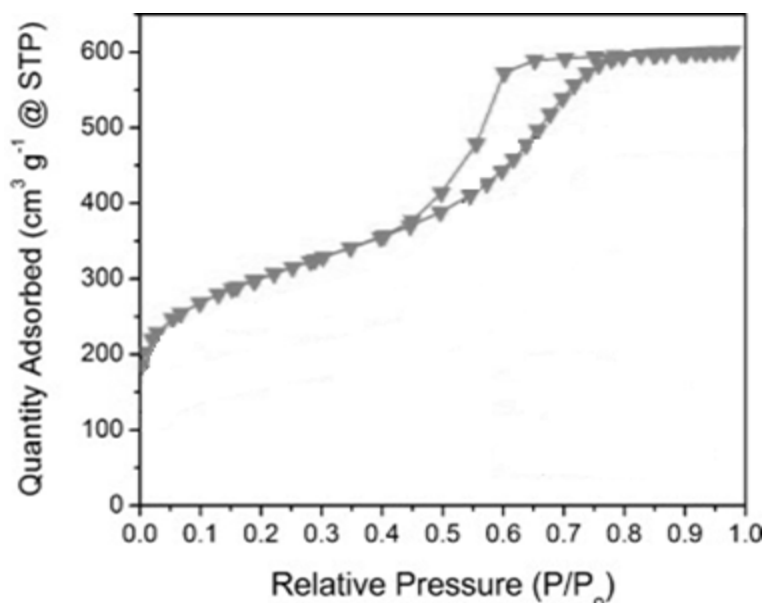
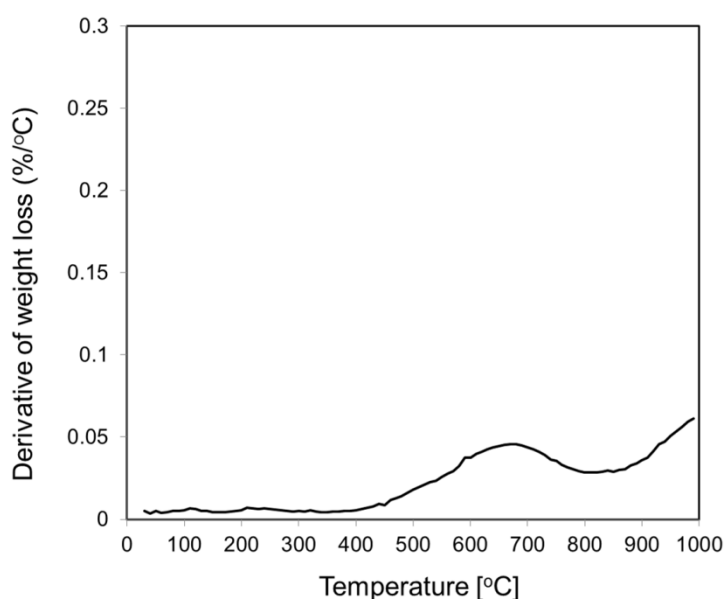

Fig. 1. N_2 isotherm of the carbon sieve at 77 K.
Fig. 2. Derivative of thermogravimetric curve of the carbon sieve under N_2 atmosphere.
Carbon sieves are porous materials containing mainly carbon atoms. They can be used as a catalyst support. At a production site, a carbon sieve product has been synthesized for this purpose and its properties have been analysed to ensure that the product meets the manufacturing criteria. The results of the N₂ sorption analysis and thermo-gravimetric analysis for this product are presented in Fig. 1 and Fig. 2, respectively.
- (b) Considering Fig. 1: (i) What is the type of isotherm for the carbon sieve produced? (ii) Identify the different steps of the isotherm and describe what they correspond to physically. (You may re-sketch the isotherm and indicate the steps directly on this).